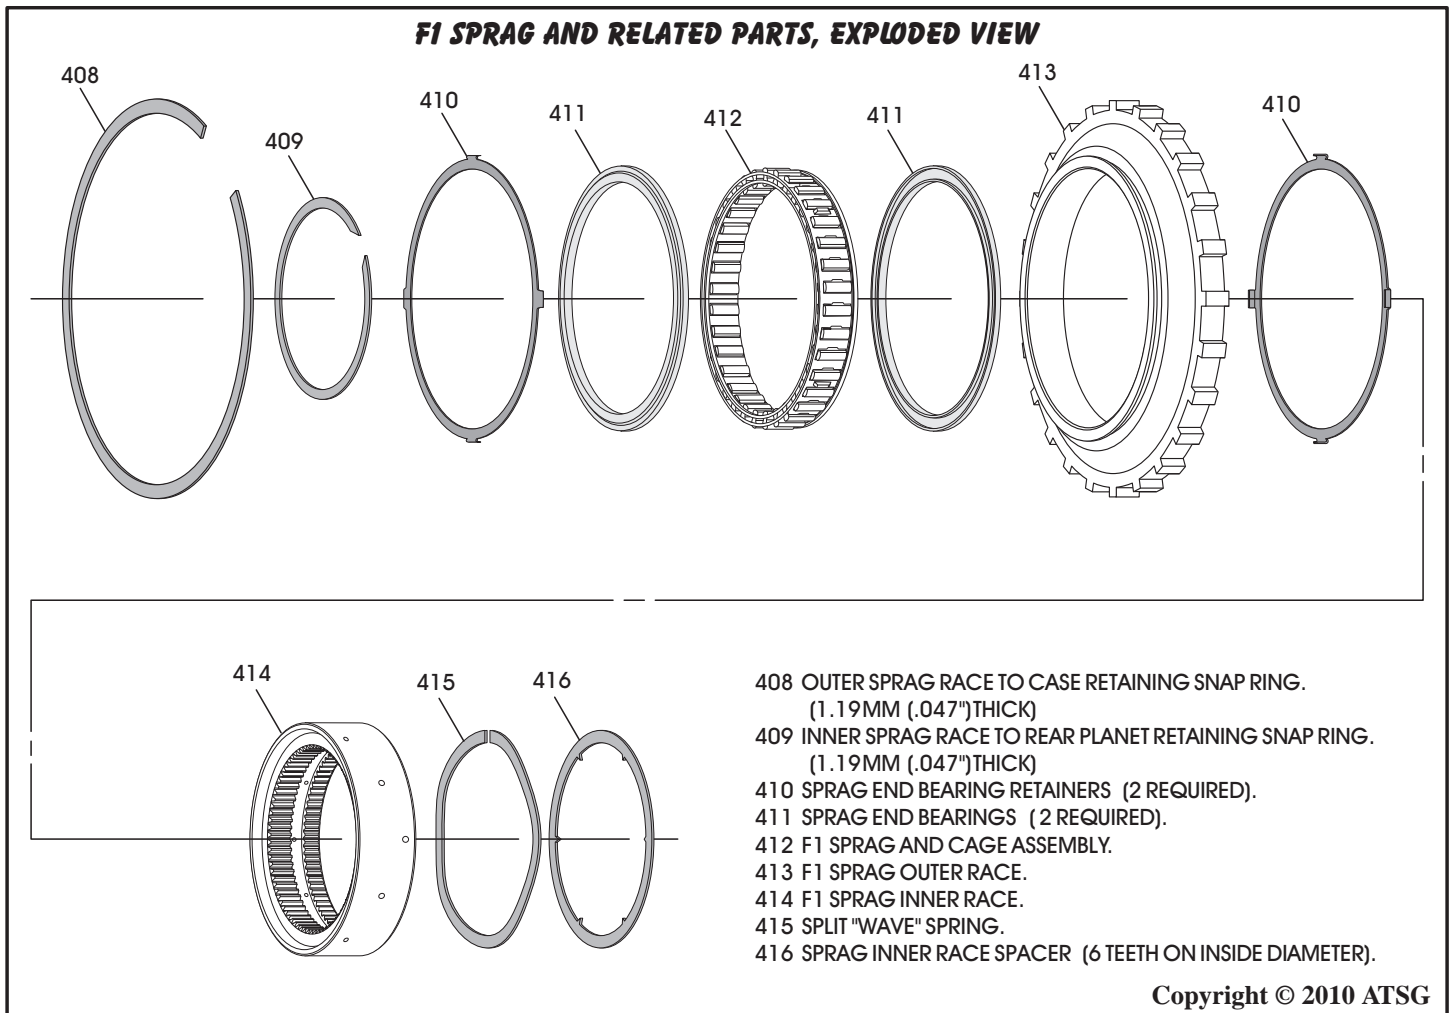

Figure 108
1. Clean all rear planetary carrier parts thoroughly and dry with compressed air (See Figure 108).
1. Disassemble the complete F1 sprag assembly using Figure 108 as a guide.